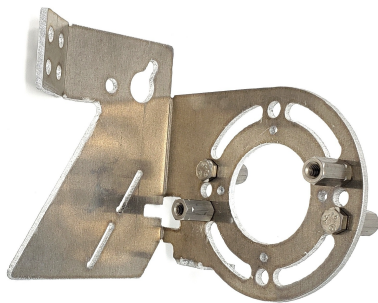

Fig 2
- 1: Using short m6 bolts (D) and female stainless steel couplers (C) at the 2 hole locations above and below the centerline hole. (See Fig 2 for position)